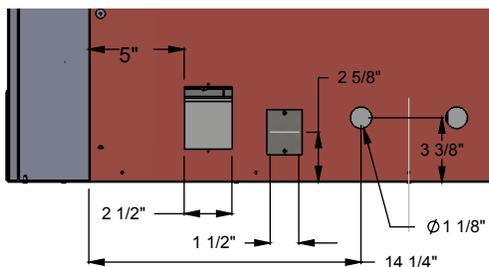

Figure 22. Gas line access.
- See Figure 22 below for location of gas line access.